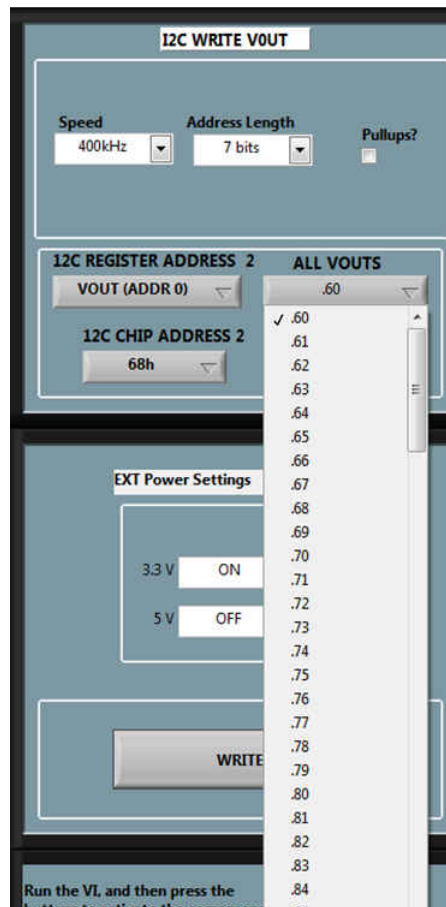

Figure 3-4. ALL VOUTS Control
- Go to the VOUTS control block and click on the ALL VOUTS control, illustrated in Figure 3-4. The drop down menu gives an option to select different VOUT.